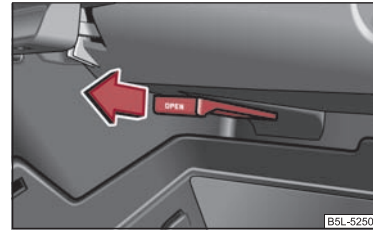

Fig. 88 Storage compartment: Using cooling system
- You can switch on the cooling system by pulling the lever in direction of arrow ⇒ fig. 88.